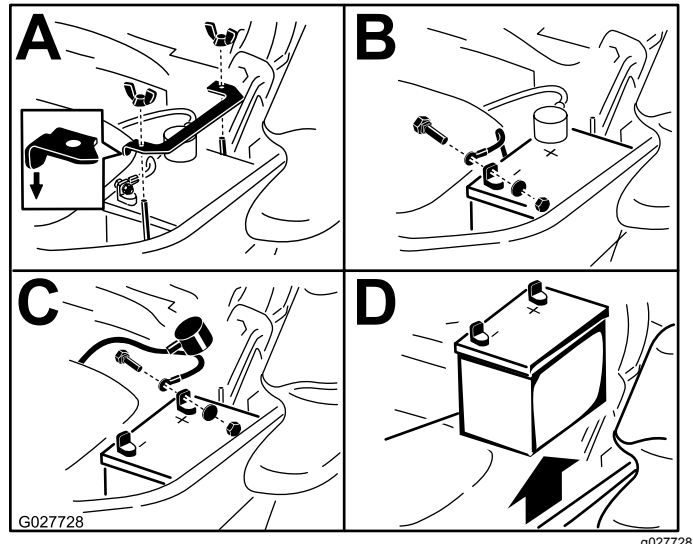

Figure 55
3. Remove the battery as shown in Figure 55.
Note: Position battery in the tray with the terminal posts opposite from the hydraulic tank (Figure 55).